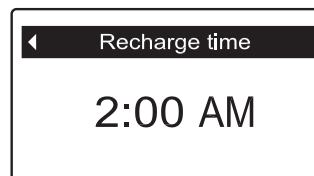

FIG. 112
4. Press the SELECT (O) button to display the Recharge time screen (See Figure 112).